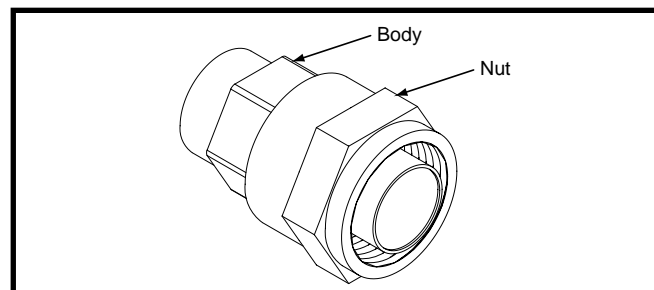

Figure 6. Female Coupling Assembly
6. While holding the coupling halves in proper alignment with each other, start twisting the threads of the female coupling nut onto the male coupling assembly. **NOTE:** The coupling end faces should be parallel with each other and visually in line; this allows the female coupling nut (Figure 6) to be easily hand threaded for the initial 2-3 rotations. These initial rotations will bring the diaphragms into contact and a sharp increase in torque will be felt.